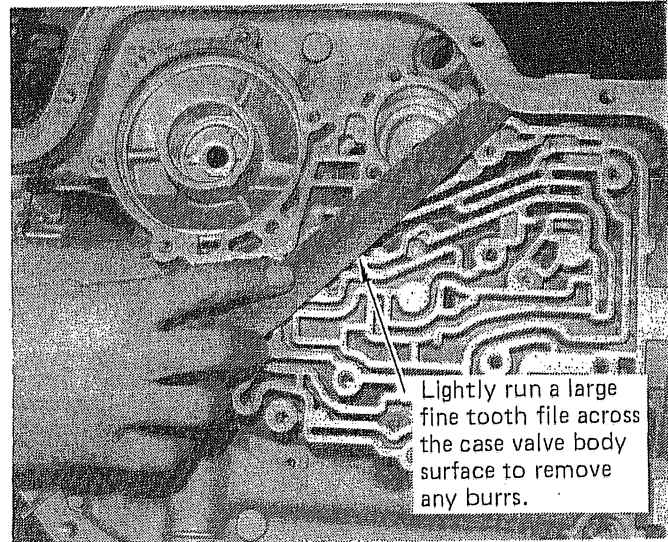

**FIGURE 42**
**STEP 14.** Install sealing rings in position. (See Fig. 42)
**STEP 9.** Support the case so it is off the ground to provide clearance for the output shaft. When you install the geartrain, make sure you align the center support bolt hole with the hole in the case. (See Fig. 42) Install the geartrain assembly. Do this in one smooth operation, tapping down on the outer edge of the center support, with the assembly in the case, to seat the geartrain. Check for proper alignment of the center support bolt hole. (See Fig. 7)